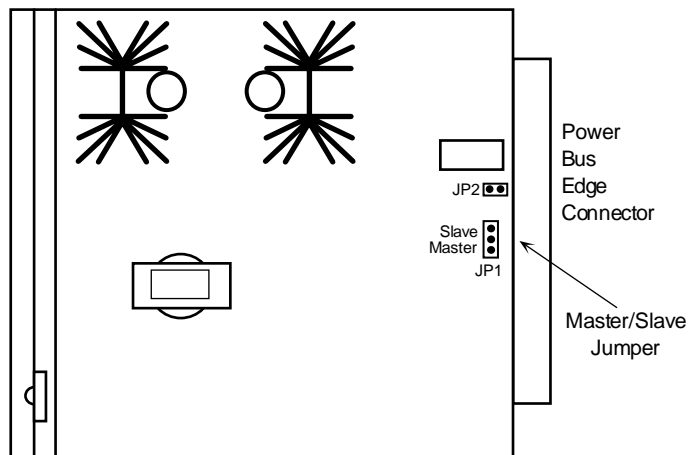

Figure 3-7. 105V Ringing Generator Jumper Setting
2. Make sure jumper W201 is installed if this is the only ringing generator in the unit, if it is the MASTER ringing generator, refer to Figure 3-7. If this is a SLAVE ringing generator, cut jumper W201 with wire cutters.